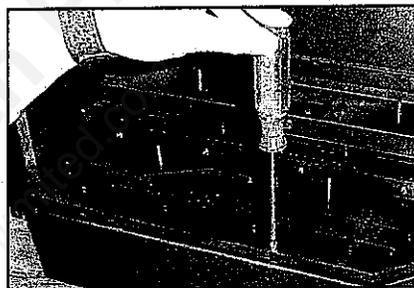

FIG. 3
2. Remove log shelf: Loosen and remove 2 screws on top of the front logshelf. See Fig. 3. Hold the log shelf at a diagonal to remove it from firebox. Remove rear logshelf in a similar diagonal fashion. See Fig. 4.